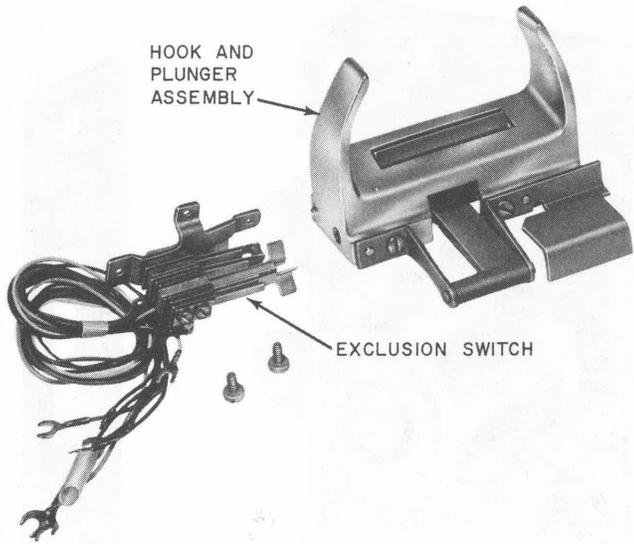

Fig. 12—D-180383 Kit of Parts
3.14 Install the exclusion feature (D-180383 Kit of Parts, Fig. 12) in the 526B or BM telephone set as follows.